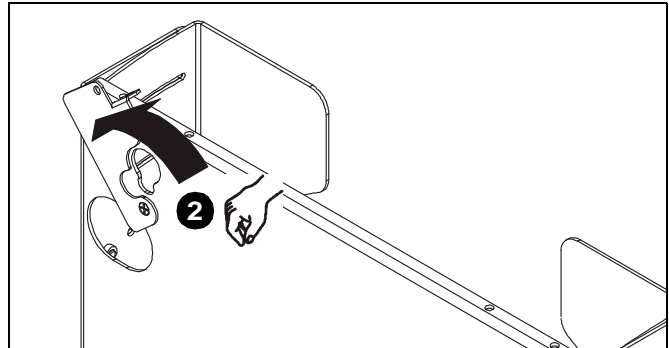

Figure 7
2. Rotate Q-Latch to the OPEN position (See Figure 7).